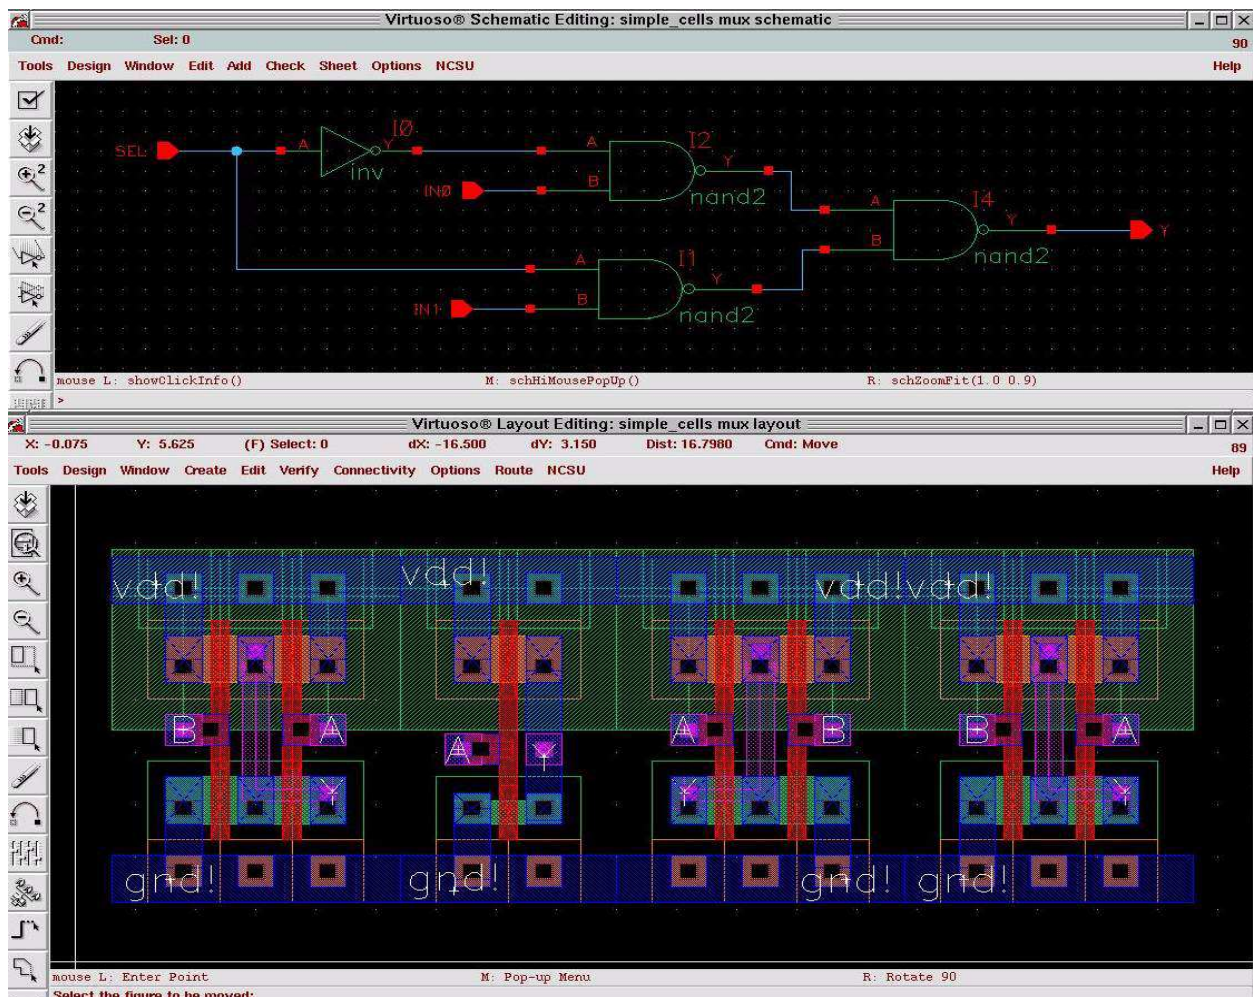

Figure 6: Minimum-gate schematic and unfinished layout of the multiplexer.
3. In the Virtuoso Layout window, instantiate instances of the gates you used in the mux schematic (Create->Instance, shortcut: 'i'). The upper window in Figure 6 shows a multiplexer schematic using the minimum possible gates (given the choice of inv, nand and nor). The lower window shows a layout of these four gates instantiated and abutted together. Again, this layout is far from optimal. The gates can be abutted closer to each other such that their power rails overlap. Try abutting the gates closer to each other and use DRC checks to determine at what point further abutment results in a violation (Hint: abutment here is limited by the minimum spacing between diffusion. When the n-select and/or p-select layers overlap, the diffusion layers of the transistors become too close to each other)